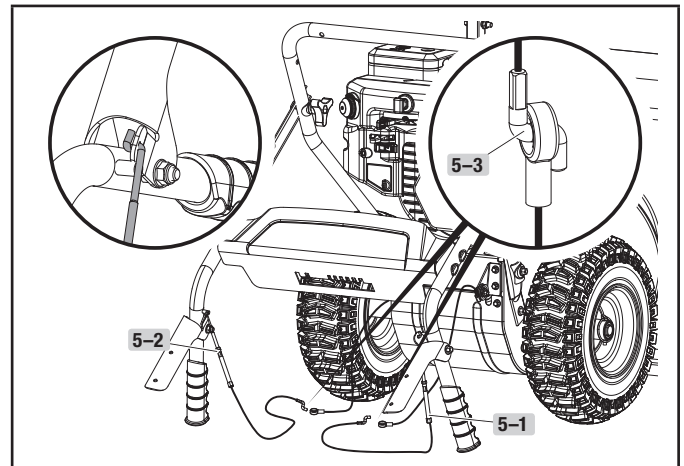

Figure 5
2. Fold handle down backwards (it will require some force to fold backwards) and connect SELF-DRIVE CONTROL HANDLE CABLE (5-1) on the right, and AUGER CABLE (5-2) on the left. (Fig. 5).
3. Insert wire clamps (5-3) together and pull to make sure they are connected. (Fig. 5).